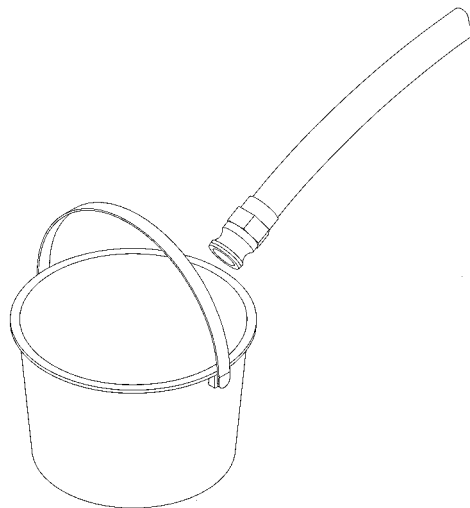

Figure 3. Cleaning Hose Connections.
4. Place ends of hose in the bucket from the BII box filled with source water. Rinse all connections before assembly. Wipe with cloth. See Figure 3.